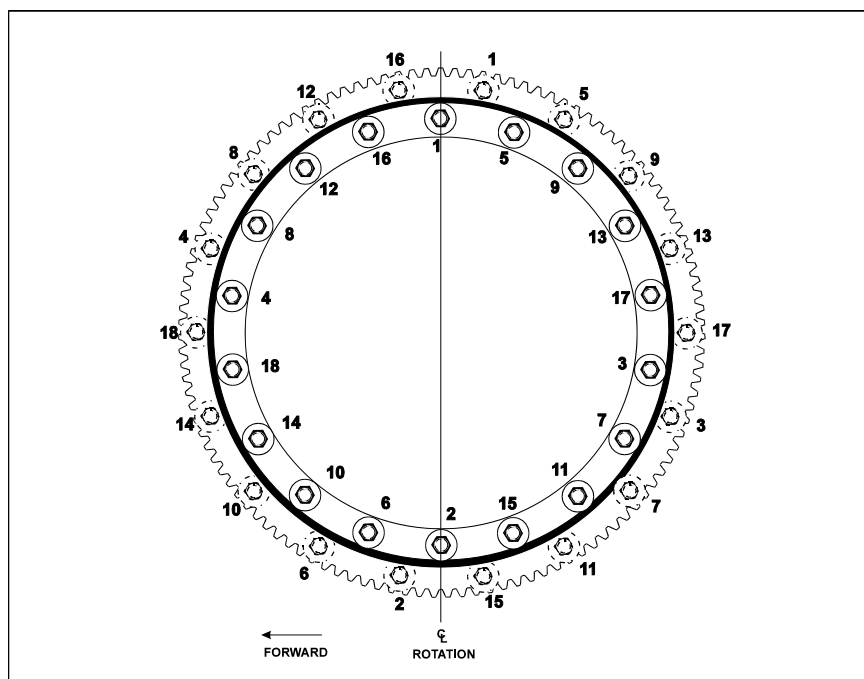

Figure 3-6. Swing Bearing Torque Sequence
- c. Refer to the Torque Sequence diagram as shown in Figure 3-6., Swing Bearing Torque Sequence. Spray a light coat of Safety Solvent
- h. Following the Torque Sequence diagram shown in Figure 3-6., Swing Bearing Torque Sequence, tighten the bolts to a torque of 240 ft. lbs. (326 Nm) w/Loctite.